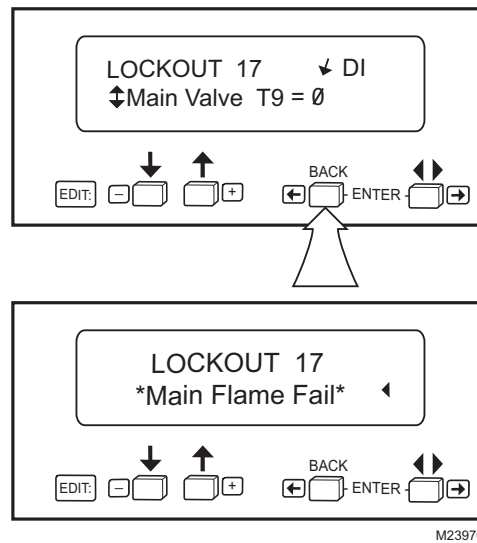

Fig. 43. BACK push-button function.
3. BACK push-button. See Fig. 43. Use the BACK push-button to instantaneously switch the display from a second-line selectable message to a second-line preempted message. The sixty second time-out function can also be used for this task. The BACK push-button only works if there is a second-line preempted message or a lockout message.